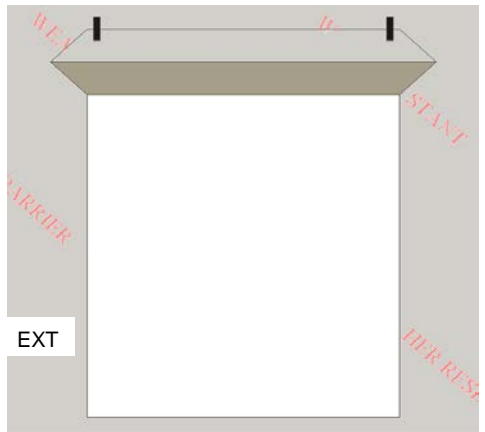

Fig. 4
- H) From the exterior, cut the top of the WRB as shown to form a flap. (Fig. 4).
- I) Temporarily tape this top flap up. (Fig. 4)